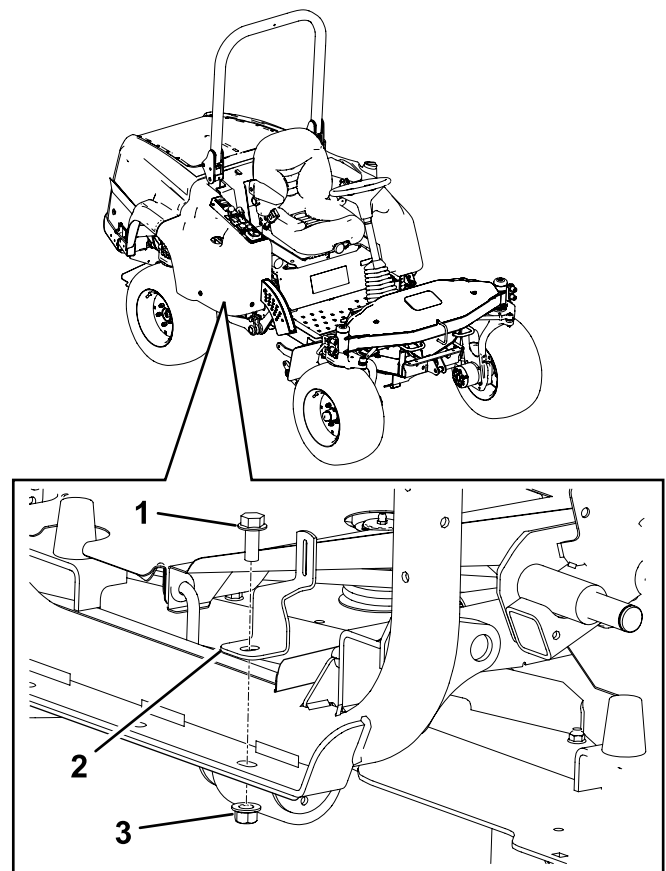

Figure 24
2. Install the shield support to the right side of the frame with the nut and bolt, removed in the previous step (Figure 24).